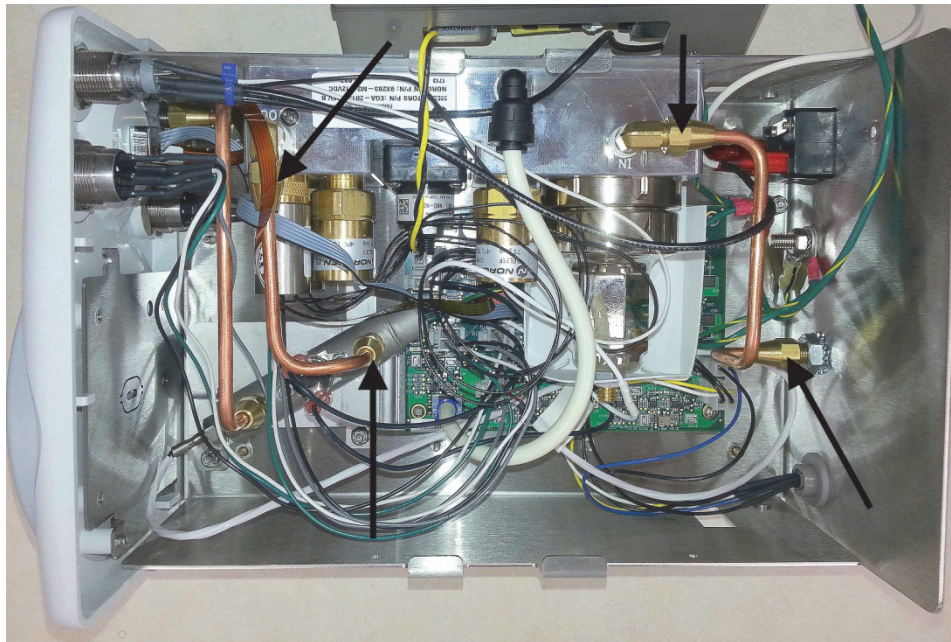

Figure 2
5. Remove the two (2) CO₂ copper tubings that attach to the Manifold. See figure 2.